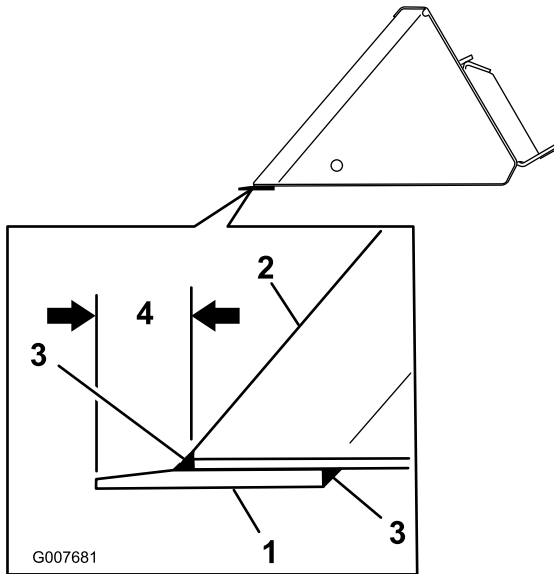

Figure 1
1. Clamp the blade to the front underside of the bucket (Figure 1), ensuring that you leave access to the entire front and rear seams of the blade for welding.
- For models 22409 and 22410, clamp the blade so that 1-1/4 inches (3.2 cm) of the blade protrudes from the front of the bucket (Figure 1).